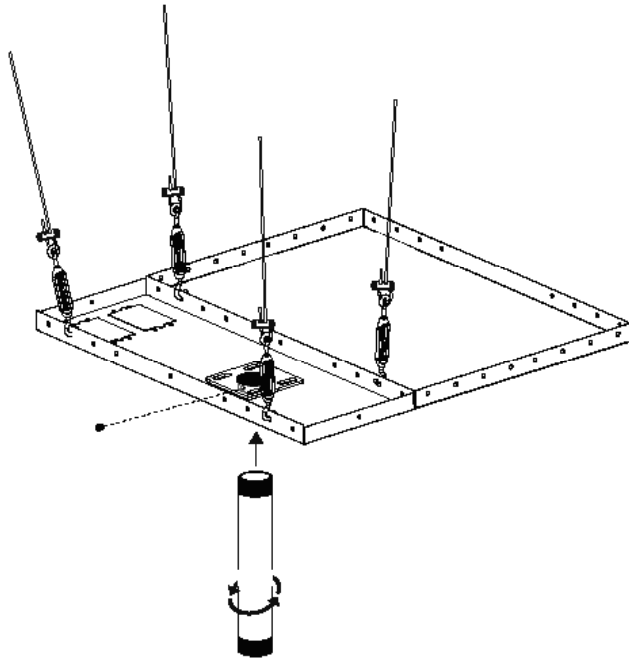

Fig 7
- b. From the bottom up, thread Extension Column (not included) up through Retaining Collar in Adjustable Collar Mount Plate. Fasten with a Set Screw using the Hex Wrench (Fig 7).